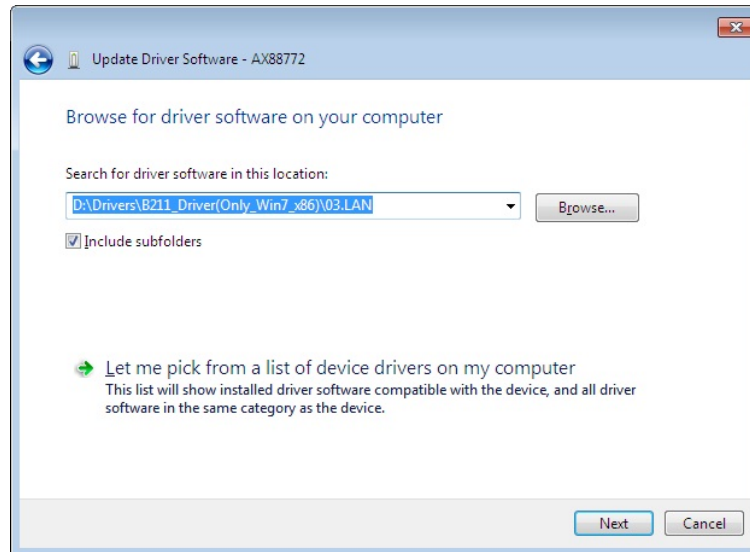

Figure 6-18: Driver Selection Window
Step 10: The following window (**Figure 6-18**) appears.